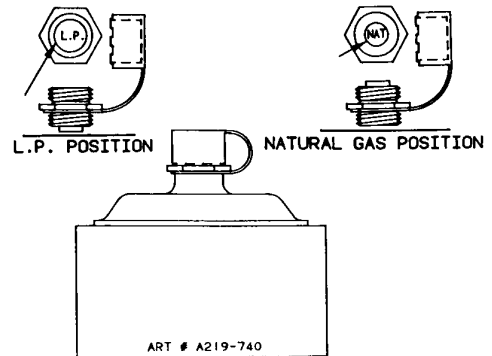

FIGURE 1
**CAUTION:** Be sure marking for the type of gas to which appliance pressure regulator has just been converted is visible in top of cap nut before replacing plastic dust cover. (See figure 1.)